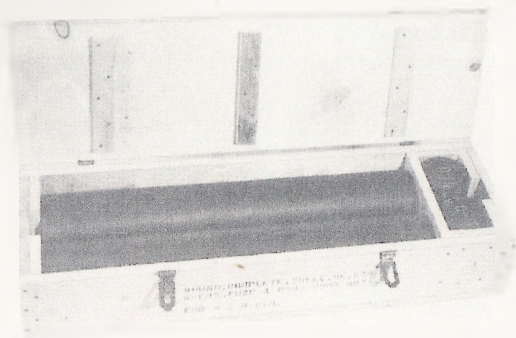

Fig. 31. Two complete rounds in packing box.
a. Complete rounds are packed to withstand conditions usually found in the field. Complete rounds, less rocket drivers, are shipped in individual moisture-resistant fiber containers enclosed in a wooden packing box (fig. 31). Rocket drivers are packed in metal containers which are enclosed in the box containing the shell. Since explosives are adversely affected by moisture and high temperature, observe following precautions:
(1) Do not break moisture-resistant seal of outer container until ammunition is to be used.
(2) Protect ammunition, particularly fuzes and drivers, from high temperature, including direct rays of sun.
a. Complete round. All the components of two complete rounds are packed in a wooden box approximately 36 inches long, 10-1/2 inches wide, and 7-3/4 inches high, including top and bottom cleats (fig. 31). The box contains two filled shell with propelling charge and fuze assembled and two rocket drivers. Each round is enclosed in a cylindrical, waterproof container; each driver is contained in a cylindrical metal container (approximate diameter, 3-1/2 inches; approximate length, 5 inches). The box with the two complete rounds weighs approximately 80 pounds and has a displacement of approximately 1.7 cubic feet.
- (1) Name and address of consignee (or code marking).
- (2) List and description of contents.
- (3) Gross weight in pounds and displacement in cubic feet.
- (4) Number of the package.
- (5) The letters U.S. in several conspicuous places.
- (6) Order number, contract number, or shipping number.
- (7) Chemical Warfare Service insignia.
- (8) Service color painted as three triangles on adjacent faces on diagonally opposite corners.
- (9) Name or designation of consignor preceded by the word "From."